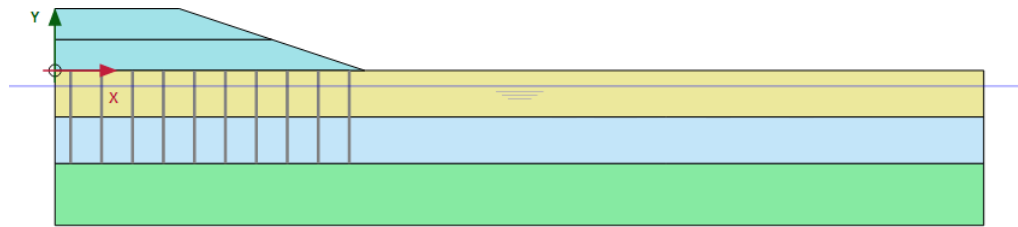

Figure 115: Configuration of the phase 3
5. In the **Staged construction mode** activate the second part of the embankment. The model for phase 3 is shown in Figure 115 (on page 135).